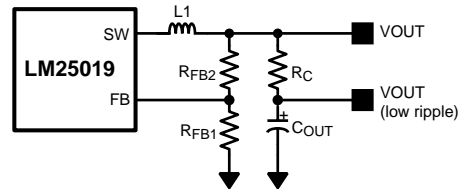

Figure 13. Low Ripple Output Configuration
This regulator regulates the output voltage based on ripple voltage at the feedback input, requiring a minimum amount of ESR for the output capacitor ( $C_{OUT}$ ). A minimum of 25 mV of ripple voltage at the feedback pin (FB) is required for the LM25019. In cases where the capacitor ESR is too small, additional series resistance may be required ( $R_C$  in Figure 13).
For applications where lower output voltage ripple is required the output can be taken directly from a low ESR output capacitor, as shown in Figure 13. However,  $R_C$  slightly degrades the load regulation.